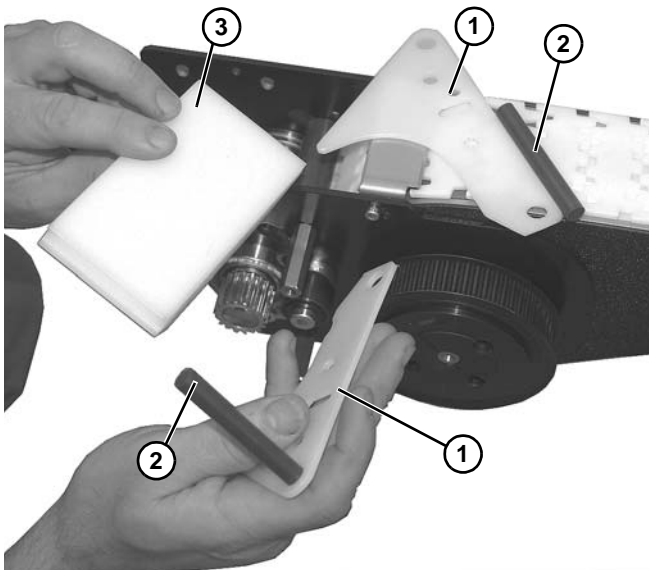

Figure 165
11. Disassemble side guide plates (**Figure 165, item 1**), wear rods (**Figure 165, item 2**), and wear bar (**Figure 165, item 3**). Replace worn components.